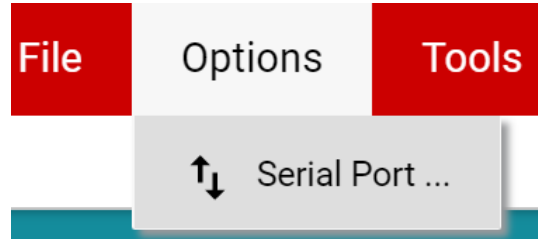

Figure 3-5. Change Serial Port
- a. If *Hardware Connected* does not show in the bottom-left corner of the GUI, check different hardware COM ports under *Options >> Serial Port* (see Figure 3-5).